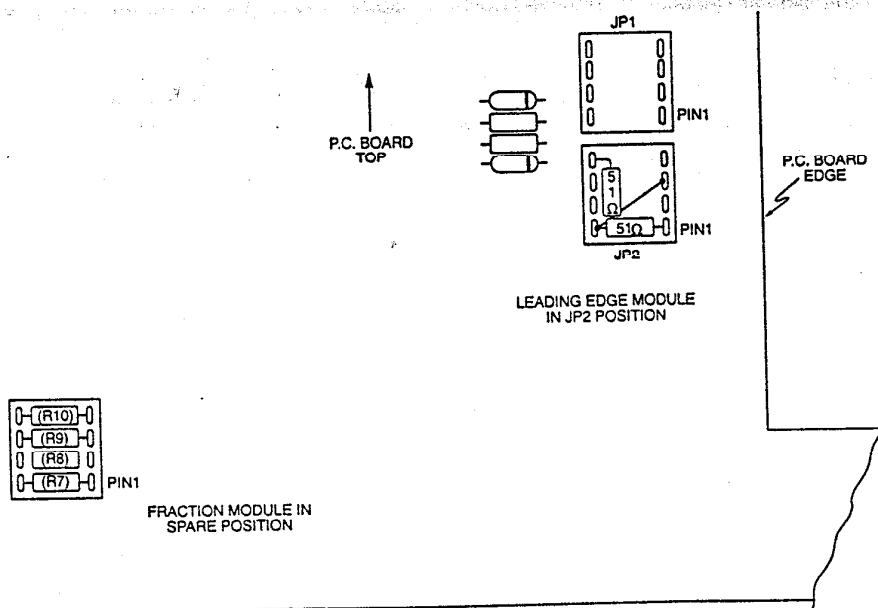

Figure 3.4
To select the Leading Edge Mode, the user should remove the fraction module from its socket near the front of the board and replace it with the Leading Edge module. A socket is provided near the bottom of the circuit board to hold the unused module. The front panel Mode Switch should be set to Leading Edge (LE) to use the Leading Edge mode. Figure 3.4 shows the proper installation of the Leading Edge module. Table 3.1 summarizes the module and switch settings for the three operating modes.